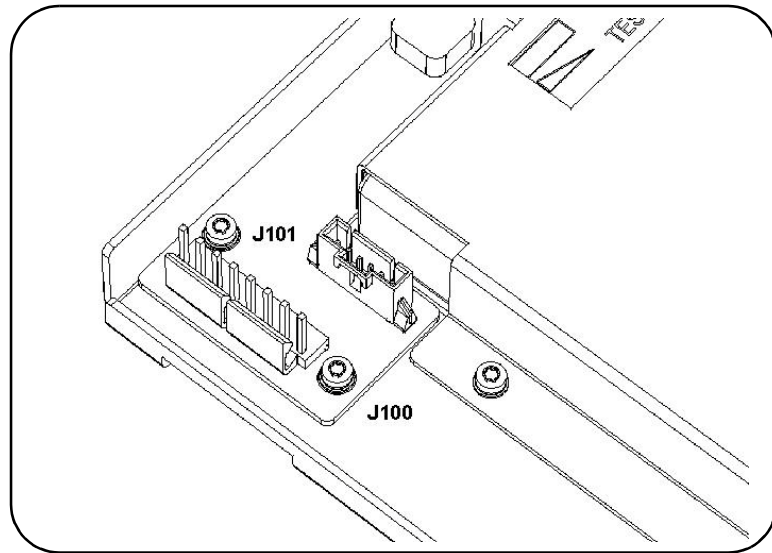

Figure 8. Battery Assembly Connectors.
8. Set the Battery assembly on its back on the right-hand side of the chassis and insert the three small plastic tabs on the chassis into the three slots on the assembly deck. Connect the two cables (just installed) to the battery charger assembly 6-pin (J101) and 8-pin (J100) PC board connectors. (Figure 8).